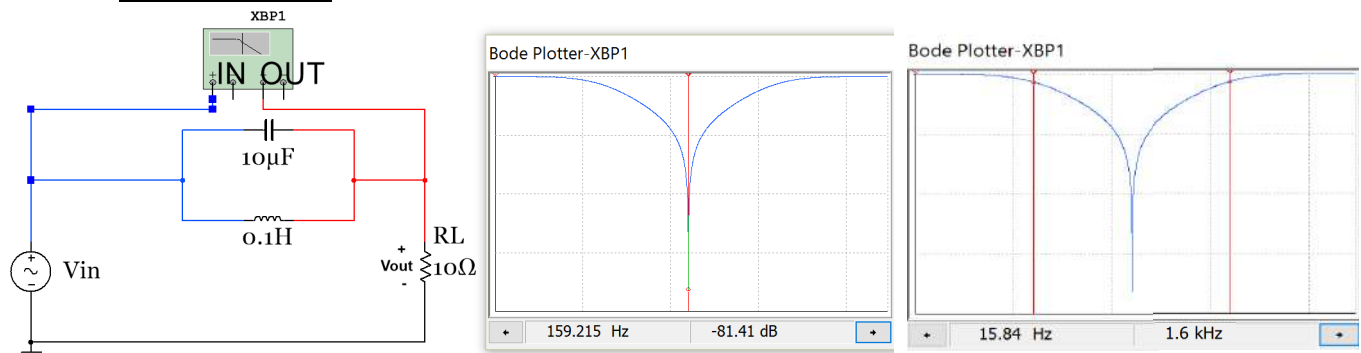

Figure 4.16: 2nd order RLC Band Stop Filter.
A common 2nd order (2 reactive elements: 1 inductor and 1 capacitor) BSF circuit is shown in Figures 4.16. The Bode magnitude plot and calculations of the center frequency (f_c) and the bandwidth (BW) are also included. These two parameters characterize the notch in the BSF and the equations that apply to them are shown in
equations 4.7 and 4.9. The steeper the notch the more “selective” the filter is at rejecting frequencies. The term quality factor (Q) shown in Equation 4.10 is used to quantify how selective the notch is. As described in Section 4.3, the quality factor was also used to determine how selective a BPF is at “passing” the center frequency. The 2nd order Low-Q BPF in Figure 4.13 is in many ways the opposite of the BSF shown in Figure 4.16. The parallel capacitor and inductor result in something frequently referred to as a “Tank Circuit”, which oscillates at its resonant frequency and stores energy (like a storage tank). Notice that the inductor causes f_L and the capacitor causes f_H , but it was the opposite for the series RLC BPF. The center frequency of the tank-style RLC BSF circuit also uses Equation 4.7 like the series RLC BPF.
This BSF circuit in Figure 4.16 (with **L=100 mH**) has the same f_C , f_L , and f_H as the BPF circuit in Figure 4.13 (as shown in the bulleted calculations below). The only difference (other than it is the opposite type of filter with the pass band and stop bands reversed) is that f_H comes from the capacitor and f_L comes from the inductor.
If the inductor in Figure 4.16 is changed to a value of **L = 10 mH** then f_L becomes **159 Hz** which is only one decade from f_H . When this circuit (with a 10 mH inductor) is simulated in **Multisim** the f_L and f_H values are **146.3 Hz and 1.732 kHz** respectively and the bandwidth is $(1732 - 146.3 = 1585.7 \text{ Hz})$. The Multisim simulated values are shown below to be much different than the calculated values from equations 4.17 and 4.18. The error results by using equations 4.17 and 4.18 when f_L and f_H are only being one decade apart.